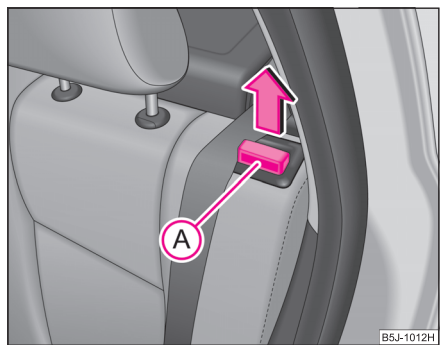

Fig. 54 Unlock the seat backrest
- Unlock the rear seat backrest by pulling the securing knob ①A and fold it forward ⇒ fig. 54.
- Make sure that the red surface of the securing knob ①A is not visible ⇒ page 73, fig. 54.